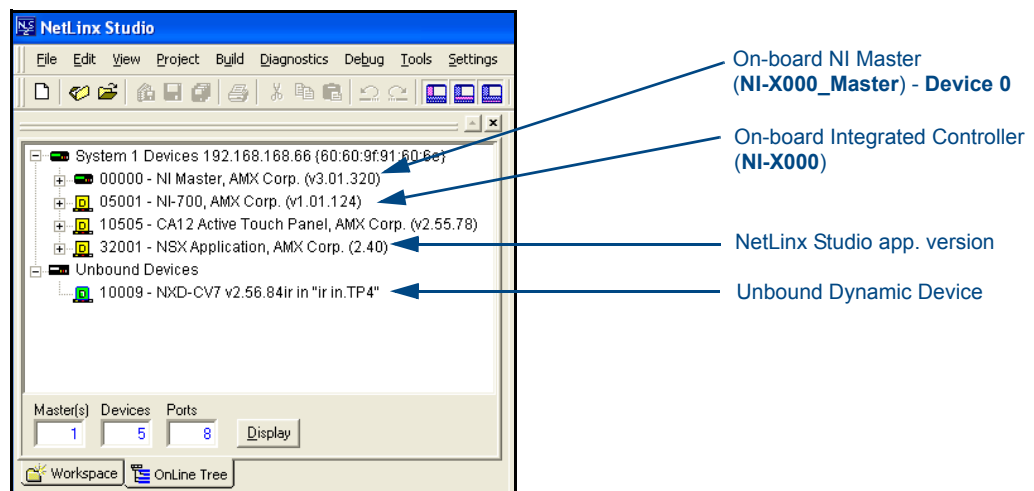

FIG. 28 Sample NetLinx Workspace window (showing SEPERATE NI-Master and Controller)
2. After NetLinx Studio has established a connection to the target Master, click the **OnLine Tree** tab of the Workspace window to view the devices on the System. The default System value is one (1).
4. After the Communication Verification dialog window verifies active communication between the PC and the NI unit, verify that the device appears in the **OnLine Tree** tab (FIG. 28) of the Workspace window (*ex: NI-3101*). This entry is different than that of the NI Master, which uses a device value of 00000 (see below):